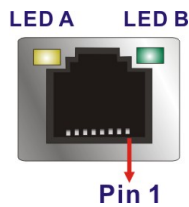

Figure 3-25: LAN Connector
- CN Pinouts:** See **Figure 3-25** and **Table 3-24**